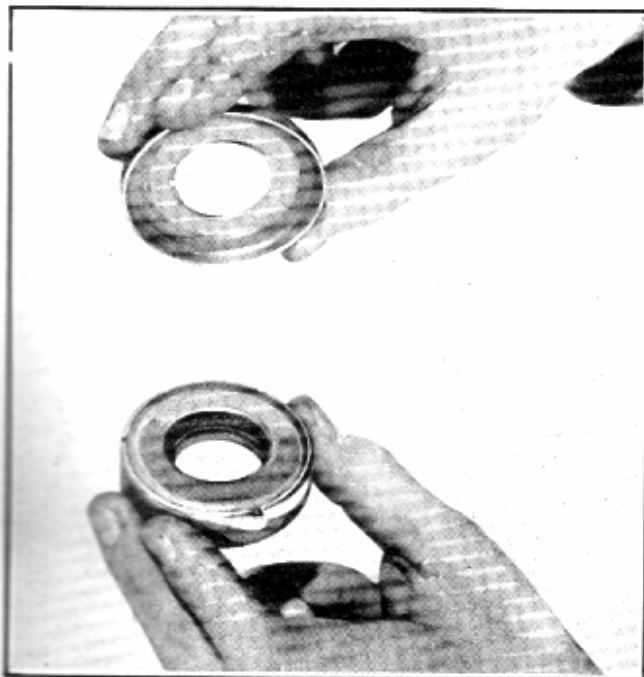

Fig. 48—King Pin Thrust Bearing and Shield
3. Remove the shield from the thrust bearing, Fig. 48, and blow out the bearing, being careful not to rotate with air pressure as this is not only dangerous, but is detrimental to the bearing. If necessary tap the open side of the bearing on a block of wood to remove any particles of dirt remaining in the bearing.